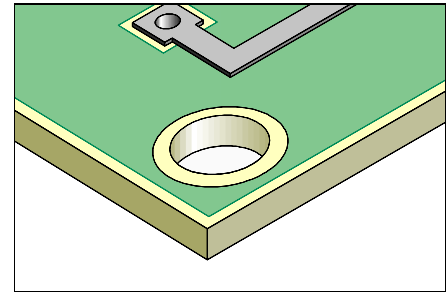

Figure 4: Cut off excess material and redrill holes as required.
9. Remove tape and cut off the excess material using the razor saw. Mill or file the dowel flush with the board surface. (See Figure 4).
10. Complete the procedure by redrilling holes and adding circuitry as required. (See Figure 4).